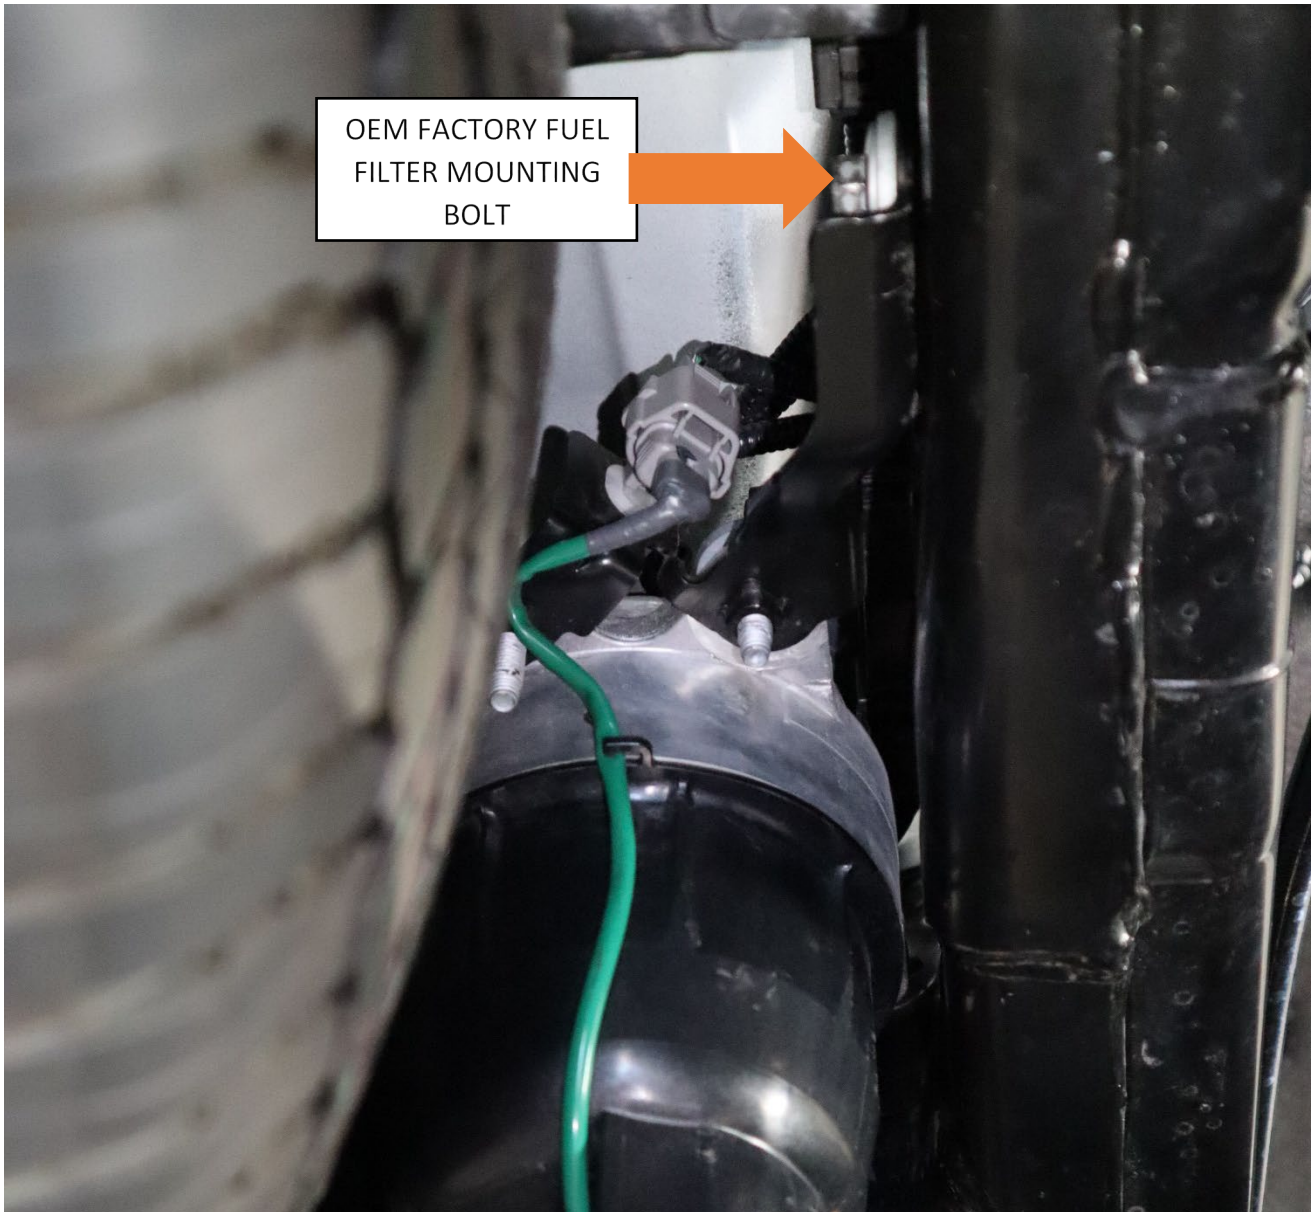
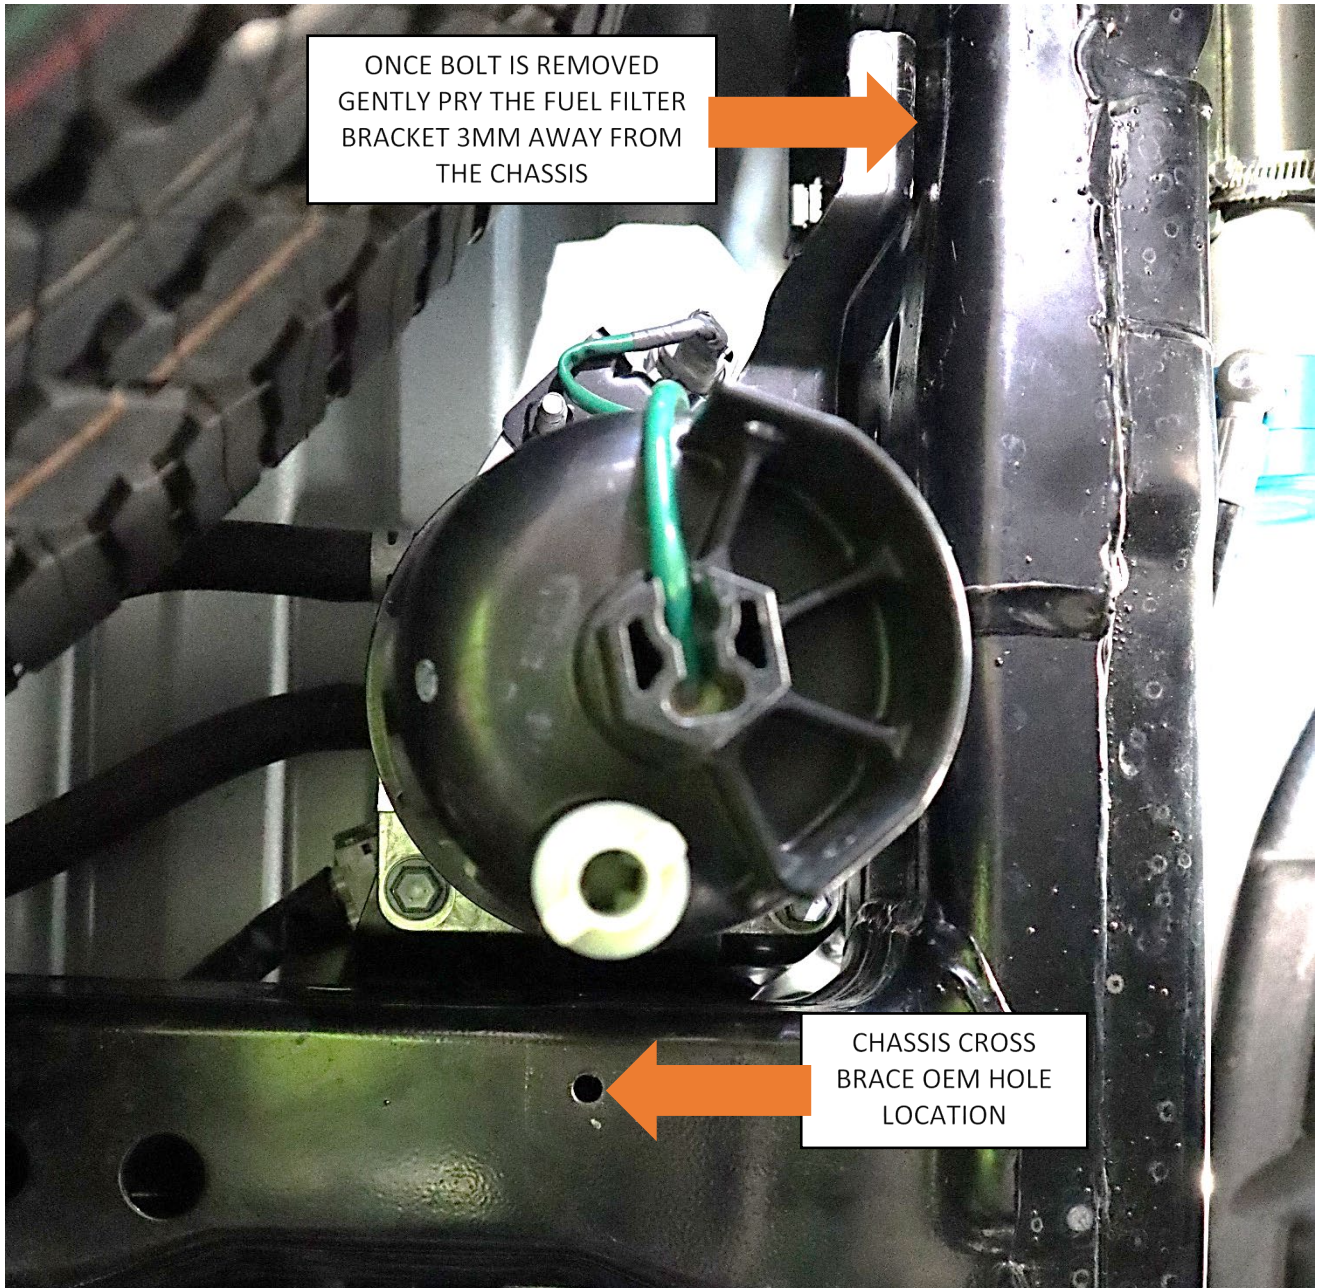

Figure 1
Figure 2
2. Identify guard location Refer to image: **Figure 1** and **Figure 2**.
4. Identify and Remove Hex head Bolt as per Image **Figure 1**.